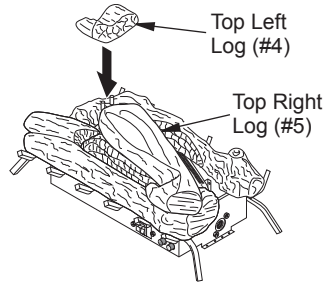

Figure 20 - Installing Top Left (#4) and Top Right Log (#5)
3. Place top left log (#4) and top right log (#5) as shown in Figure 20.